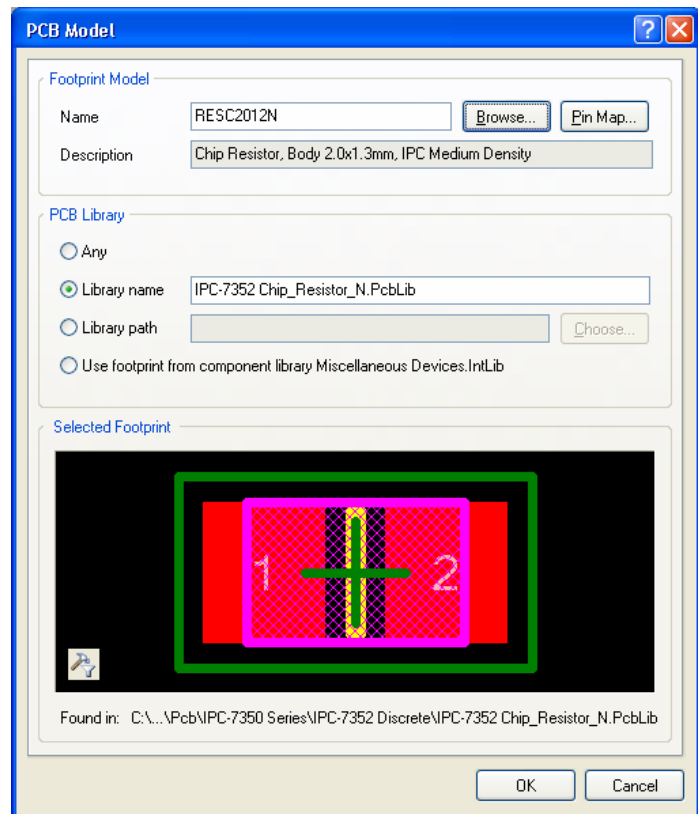

Figure 14. Configure the *PCB Model* dialog for the new resistor footprint.
9. The *PCB Model* dialog is now configured for the new footprint, as shown in Figure 14. Click **OK** to close the dialog and Add this footprint to the selected components.